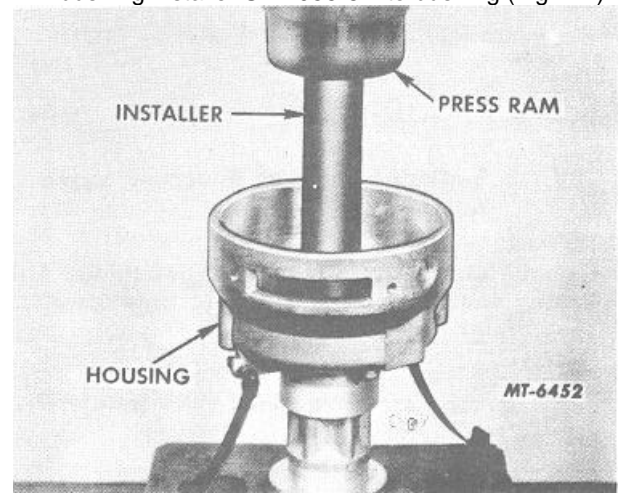

Fig. 41 Installing Upper Bushing Using Bushing Installer SE-1955-8
6. Position distributor housing in press and insert bushing installer SE-1955-8 into bushing (Fig. 41).